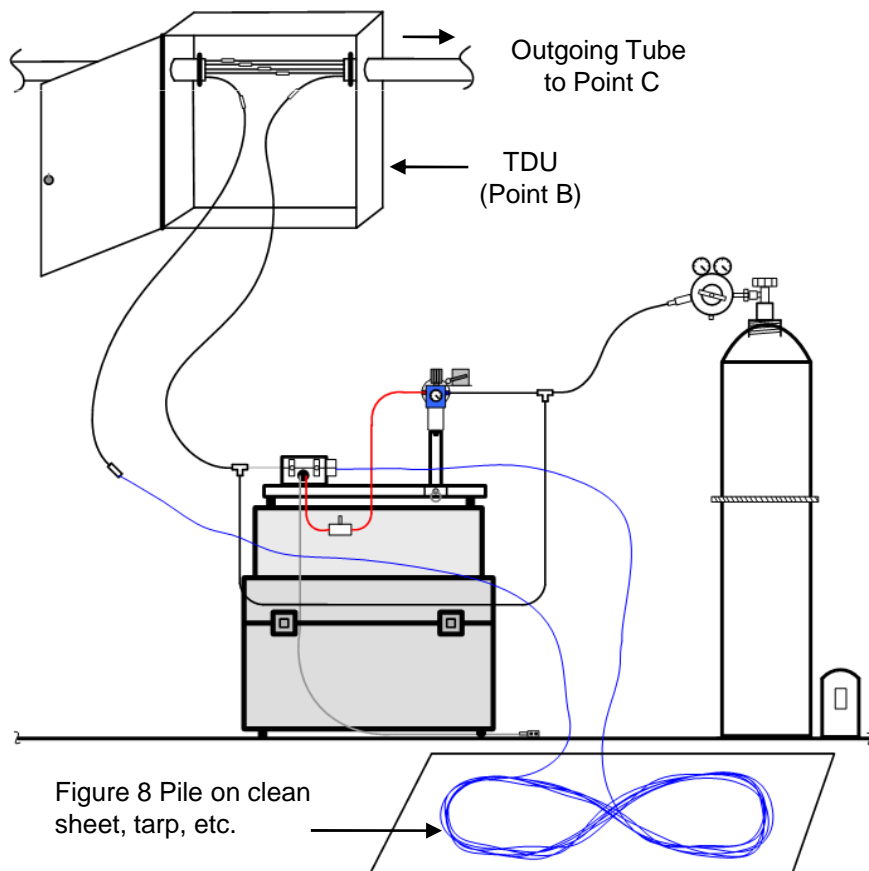

Figure 9
10.6 When ready, install fiber bundle from Point B to Point C in accordance with Sumitomo Recommended Procedure SRP SP-F04-002. **See Fig. 9.**